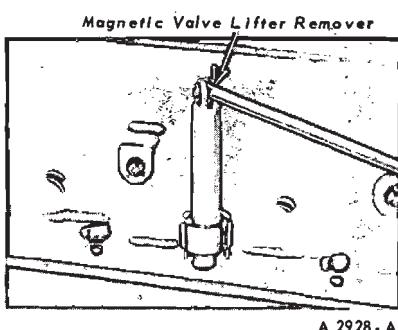

FIG. 27—Removing or Installing Valve Lifters
9. Remove the valve push rod cover; then remove the valve lifters in sequence, using the tool shown in Fig. 27. Place the valve lifters in a tray or rack to facilitate installation in the same bores from which they were removed.
5. Loosen the rocker arm stud nut(s) until the rocker arm(s) can be disengaged from the push rod(s). Remove the push rod(s). Remove the valve lifter(s) with the tool shown in Fig. 27. If more than one push rod and valve lifter is removed, place the parts in a rack so they can be installed in their original location.
2. Apply Lubriplate to the cam lobe contact surface of the valve lifter(s). Install the valve lifters with the tool shown in Fig. 27.